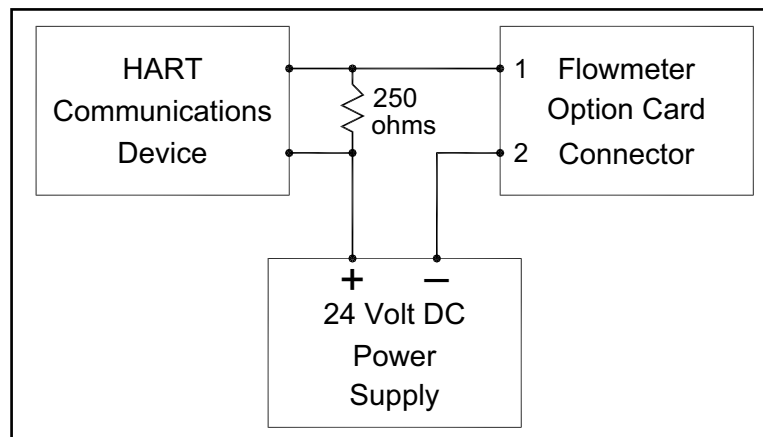

Figure 53: Option Card Wiring
3. Interconnect the HART option card and the HART device as shown in *Figure 53*.